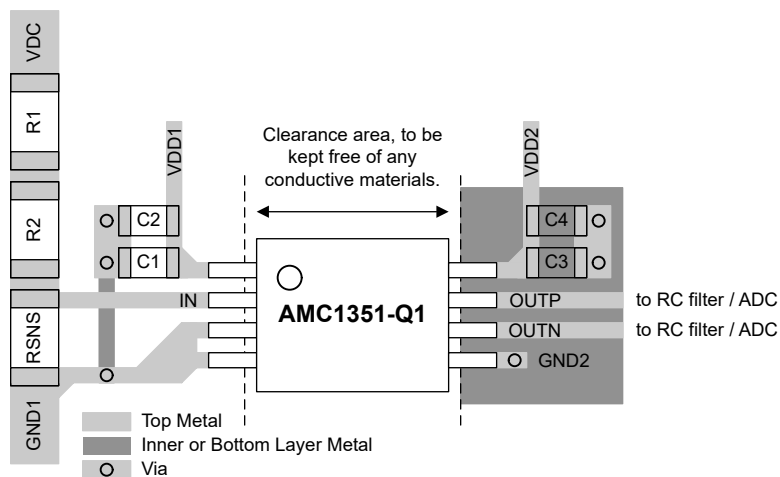

Figure 10-1. Recommended Layout of the AMC1351-Q1
Figure 10-1 shows a layout recommendation with the critical placement of the decoupling capacitors (as close as possible to the AMC1351-Q1 supply pins) and placement of the other components required by the device. For best performance, place the sense resistor close to the device input pin (IN).